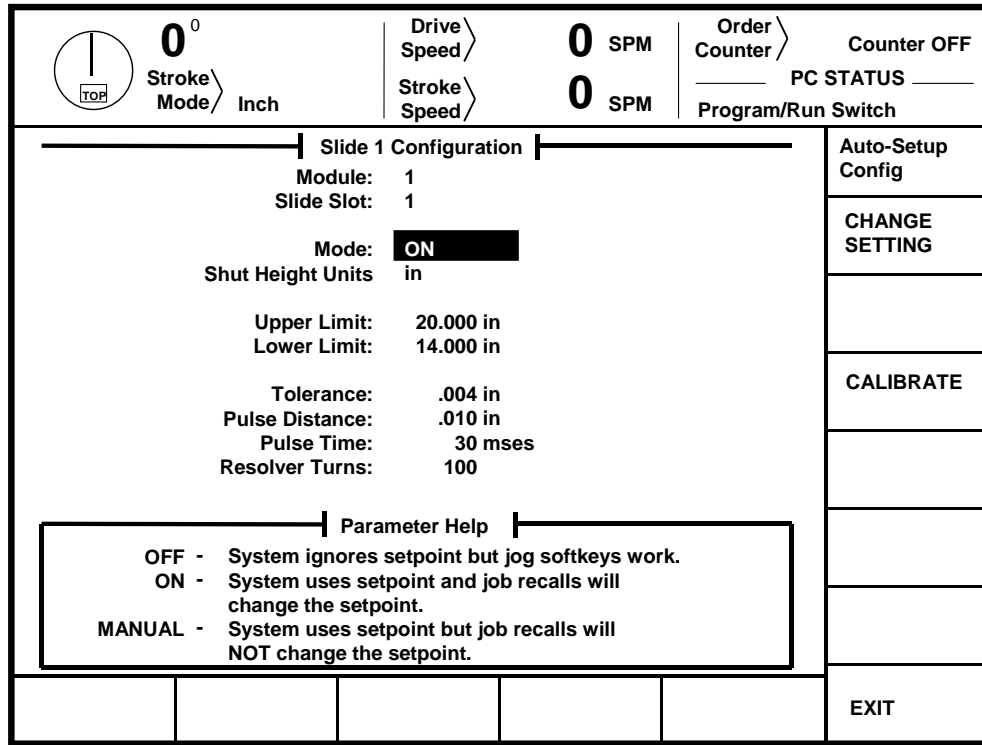

Figure 4-6 Slide Configuration Screen
The slide adjust configuration screen is shown in Figure 4.6.
- a) Make sure the upper and lower limit settings have been set correctly in the slide configuration screen of Figure 4.6.
- b) Press the CALIBRATE SLIDE softkey in the slide configuration screen of Figure 4.6.